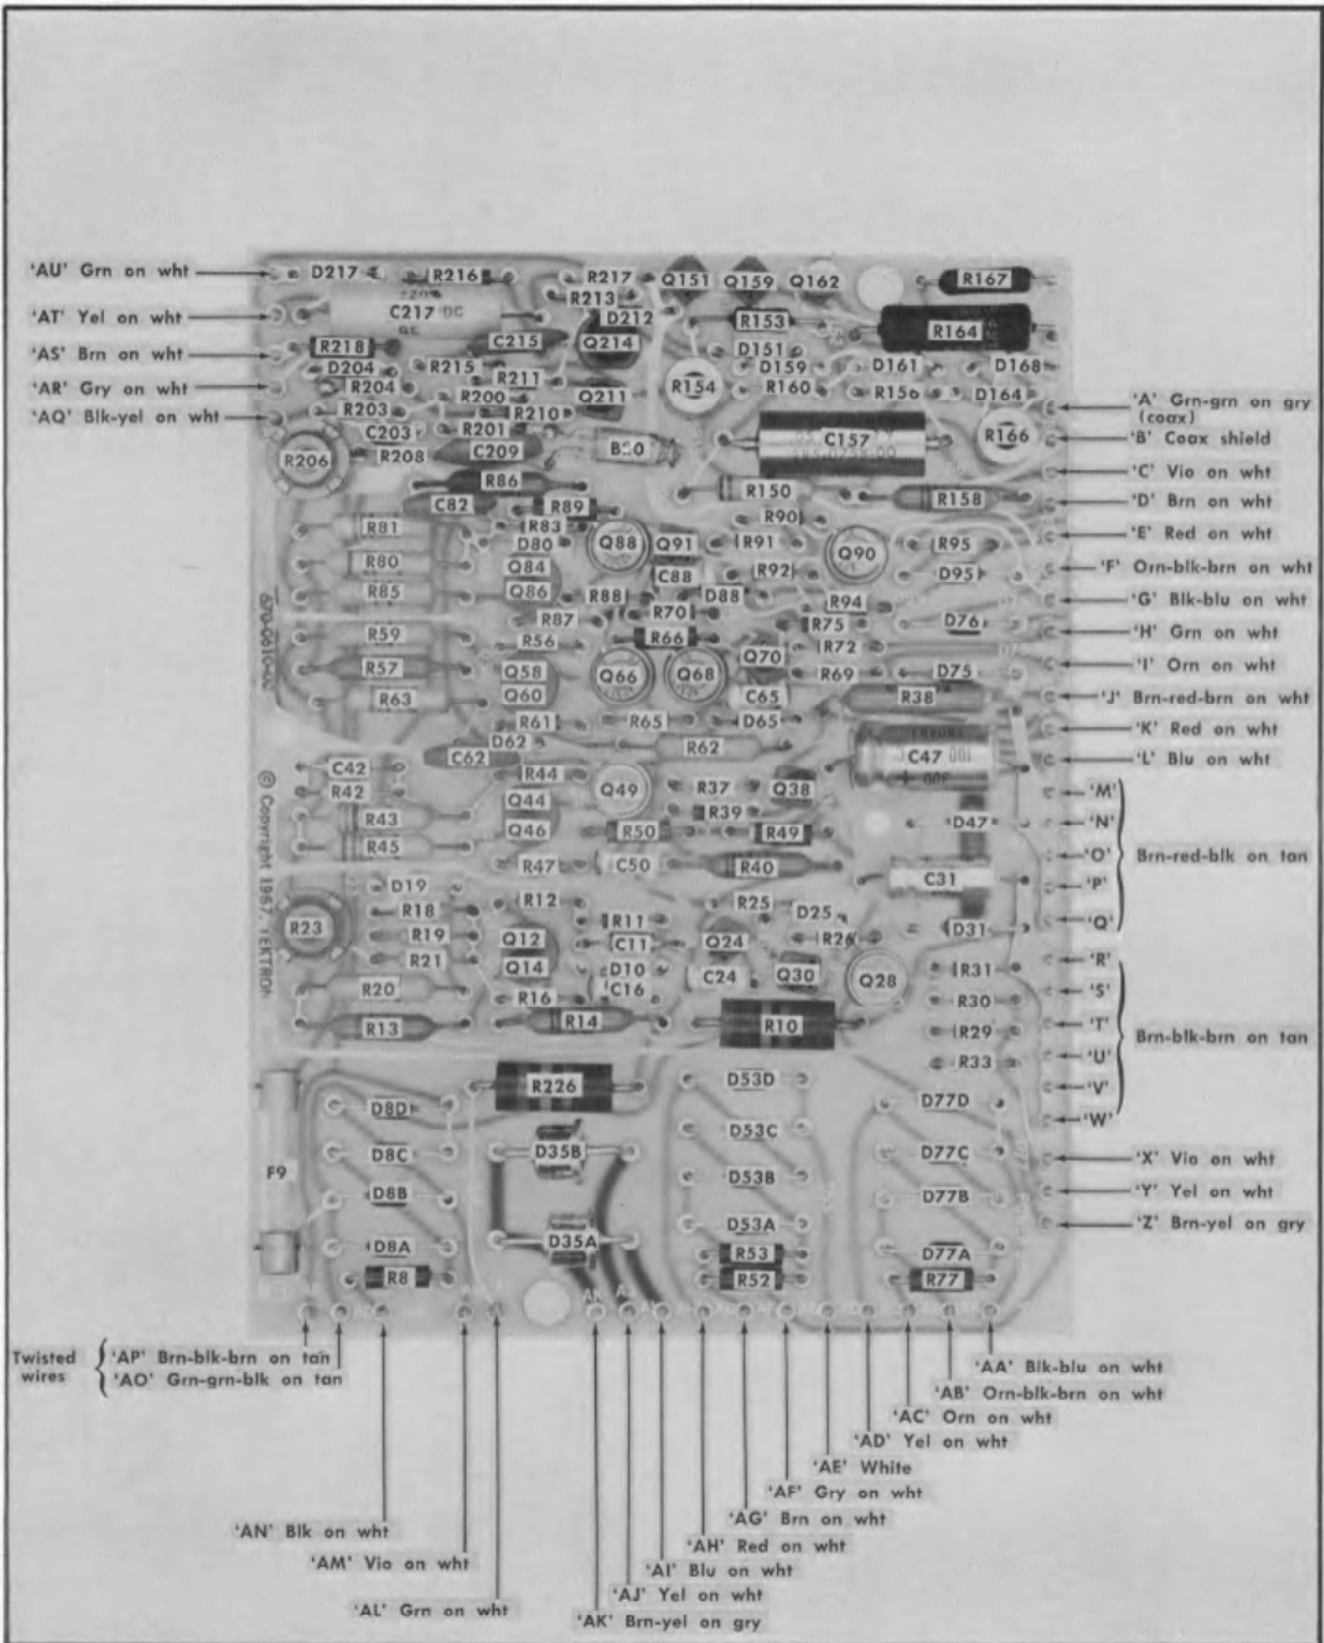

Fig. 4-6. Low Voltage Power Supply and 1 kHz Calibrator circuit board.
**Circuit Board Replacement.** If a circuit board is damaged beyond repair, either the entire assembly including all soldered-on components, or the board only, can be replaced. Part numbers are given in the Mechanical Parts List for either the completely wired or the unwired board. Many of the components mounted on the circuit boards can be replaced without removing the boards from the instrument. Observe the soldering precautions given under Soldering Techniques in this section. However, if the bottom side of the board must be reached or if the board must be moved to gain access to other areas of the instrument, the mounting screws need to be removed it may be necessary to disconnect some of the interconnecting wires from the pin connectors. Refer to Figs. 4-6 through 4-10 for component locations and interconnecting wire identifying colors.